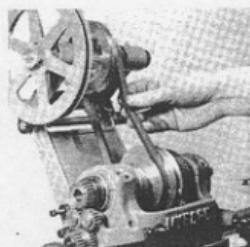

Fig. 9
g Pull the belt tensioning lever forward against the stop (i.e. with the lever and knob roughly vertical) so that the cam shaft (8) is in the full lift position. Adjust the tensioning screws (9) until the slack of the belt allows approx. $\frac{1}{2}$ " total movement when lightly oscillated by the thumb and forefinger. This will provide an initial tension setting, which can be increased if slip is experienced when the machine is operated. See Figs. 9 and 10.